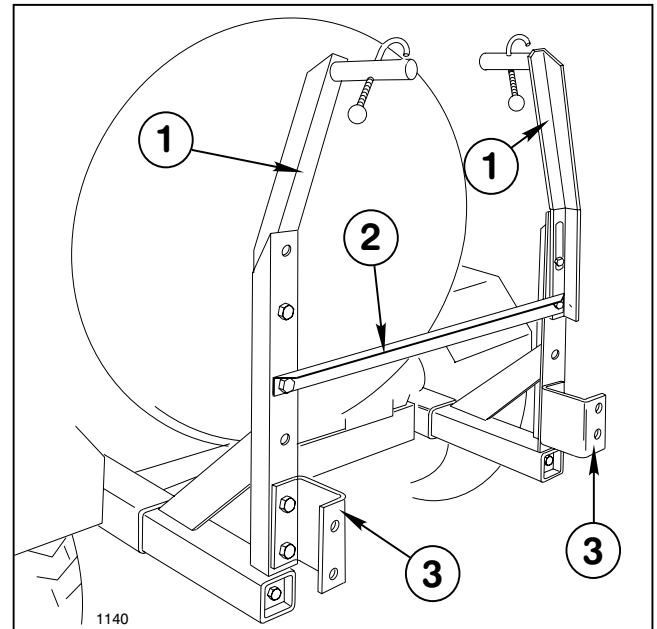

Figure 2
3. Install the two (2) Boom Hold-In Assemblies and the Angle Crossmember to the top of the Boom Mount uprights as shown in FIG. 2, using four (4) 1/2" x 1-1/4" cap screws, flat washers and lock nuts.
4. Attach the two "U"-shaped Boom Mounting Brackets to the bottom of the Boom Mount uprights with four (4) 1/2" x 1-1/4" cap screws, and lock nuts. (See FIG. 2.)